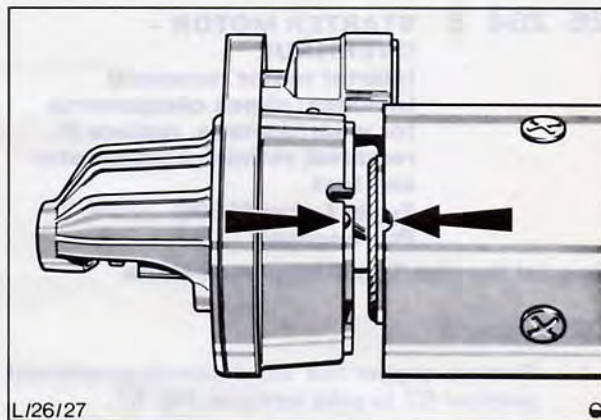

Fig. 54. Match alignment notches
21. Match alignment notches in yoke and drive end housing, Fig. 54, and secure yoke and housing with two fixing screws.